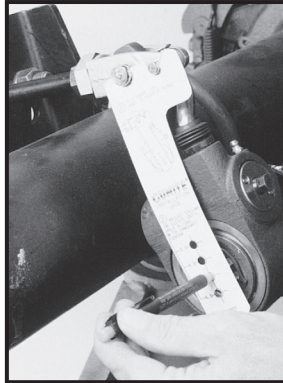

Figure 3 -
5. Thread the 1-1/4" collar nut onto the clevis and install the template over the large and small pins as shown in Figure 3.